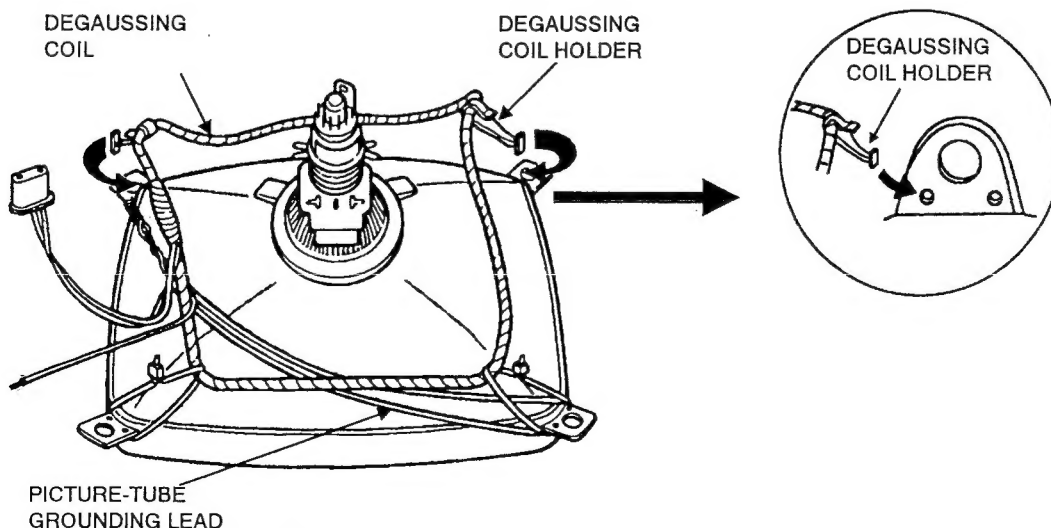

Figure 2. Picture Tube Removal
4. Install a replacement picture tube in reverse order. Referring to Figure 2, properly install the degaussing coil and picture-tube grounding lead on the picture tube.